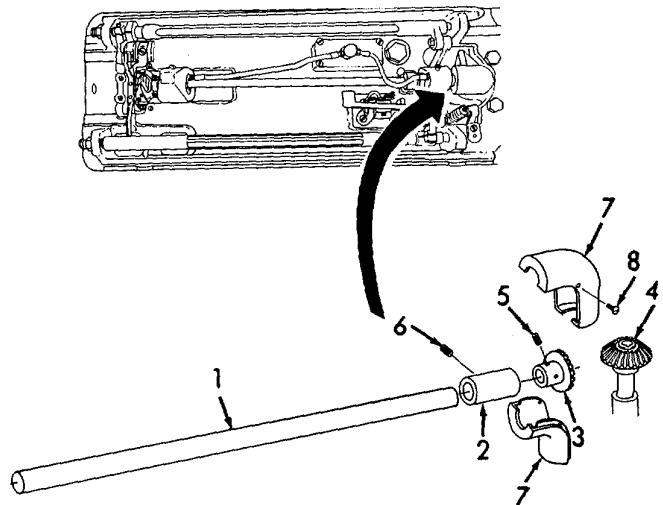

Figure 6-60. Bobbin Drive Shaft and Gears, Installation.
- (5) Inspect the bobbin case and rotary hook assembly for damage.
- (6) Inspect the thrust collar for damage.
e. Installation (Refer to Figures 6-60 and 6-61).
- (1) Refer to Figure 6-60. Install the shaft (1) through the front bushing with the flat on the shaft towards the rear.
- (2) Slip on the thrust collar (2). Do not tighten the setscrews at this time.
- (3) Slide the shaft (1) into the rear bushing.
- (4) Slide pinion gear (3) onto shaft (2). Be sure that the pinion gear (3) mates with the other pinion gear (4).
- (5) Move shaft (1) until the shaft end is flush with the end of the pinion gear (3). Tighten the pinion gear setscrews (5).